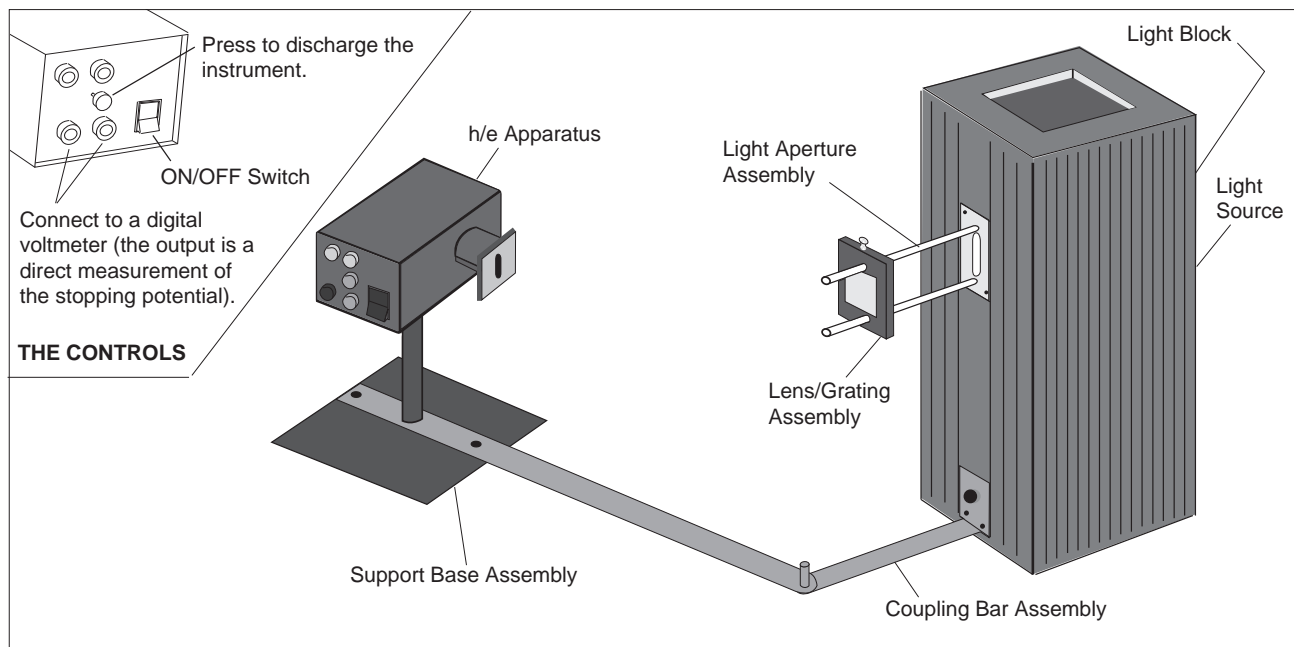

Figure 5. Equipment Setup Using a Mercury Vapor Light Source and the h/e Apparatus
The standard setup for h/e experiments is shown in Figure 5. Details for setting up the apparatus are described below.
- Insert the Coupling Bar assembly into the lower mounting groove of the Light Source (Figure 5). Secure in place by tightening the thumbscrew against the front of the Light Source housing.